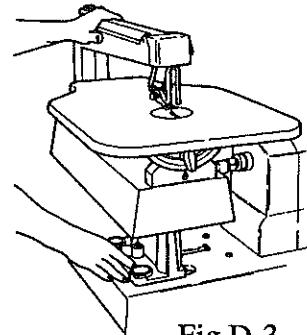

Fig.D-3
6. Unlock the carriage (21) by turning the handle (19) to the left. With your hands placed on the carriage and the Scroll Saw, slide the carriage and Scroll Saw toward the Power Station's drive shaft hub (31) until the coupler almost touches the hub. See Fig.D-3.
7. Lock the carriage by turning the handle (19) to the right.